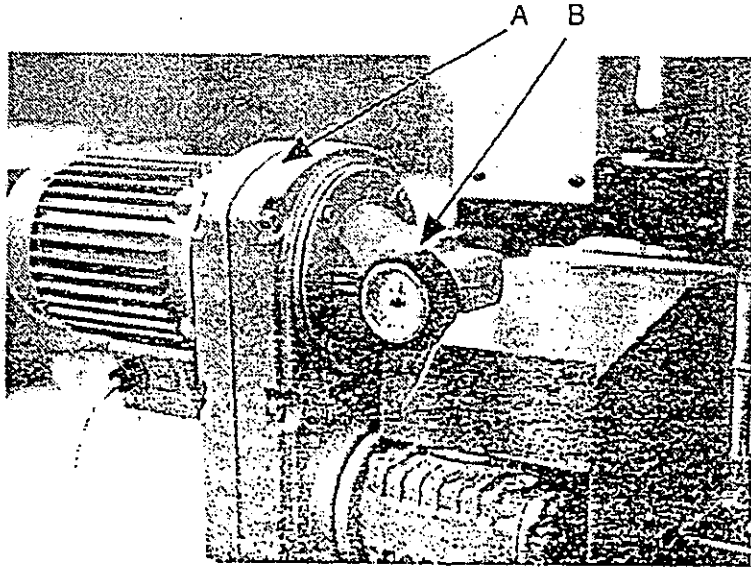

Fig 8
1. The variable drive unit "A" (fig 8) gives feed speeds ranging from 6-30m/min (18-100ft/min) and speed adjustment is by handwheel "B" (fig 8), a dial is fitted to indicate feed speed.